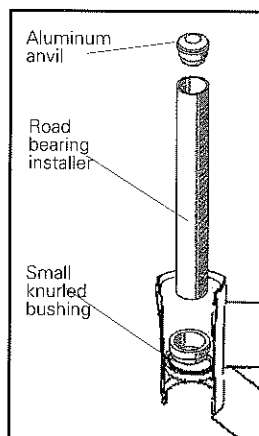

Fig. 45
8. Insert the **small knurled bushing** into the head tube (Fig. 45).